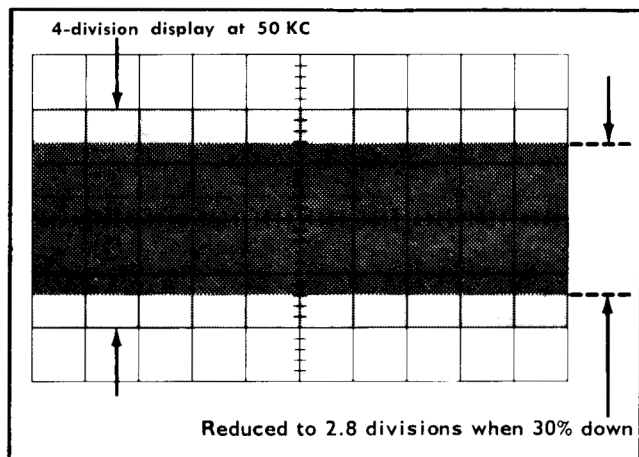

Fig. 5-8. Typical crt display when checking vertical frequency response.
- e. Without changing the output amplitude, increase the output frequency until the deflection is reduced to 2.8 divisions (see Fig. 5-8).
- j. Without changing the output amplitude, increase the output frequency until the deflection is reduced to 2.8 divisions (see Fig. 5-8).
- o. Without changing the output amplitude, increase the output frequency until the deflection is reduced to 2.8 divisions (see Fig. 5-8).
- t. Without changing the output amplitude, increase the output frequency until the deflection is reduced to 2.8 divisions (see Fig. 5-8).
- y. Without changing the output amplitude, increase the output frequency until the deflection is reduced to 2.8 divisions (see Fig. 5-8).
ad. Without changing the output amplitude, increase the output frequency until the deflection is reduced to 2.8 divisions (see Fig. 5-8).